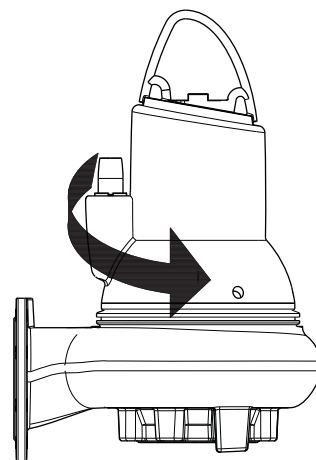

Fig. 18 Jerk direction
2. Start and stop the pump while observing the movement (jerk) of the pump. If connected correctly, the pump will rotate clockwise, i.e. it will jerk counter-clockwise. See fig. 18.